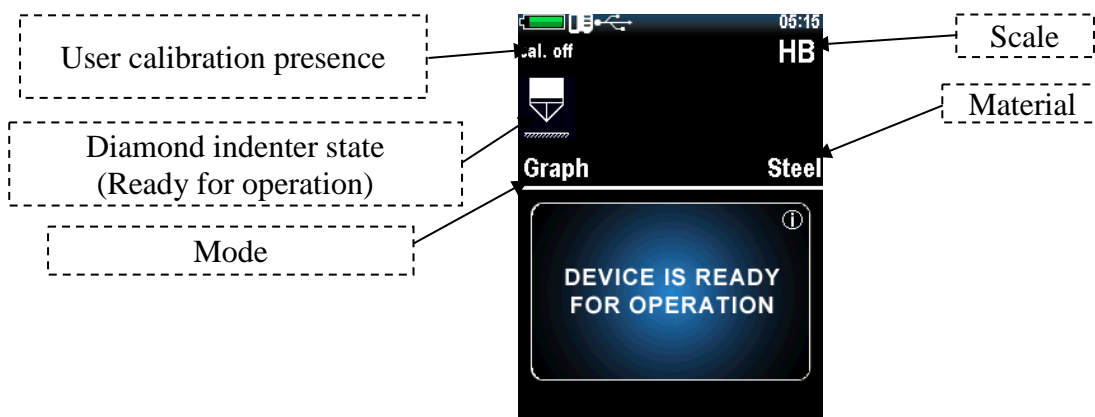

Figure 2.5 – <MEASURING> section
4. As the probe is already connected, the device immediately goes to the <MEASUREMENTS> section (Figure 2.5).